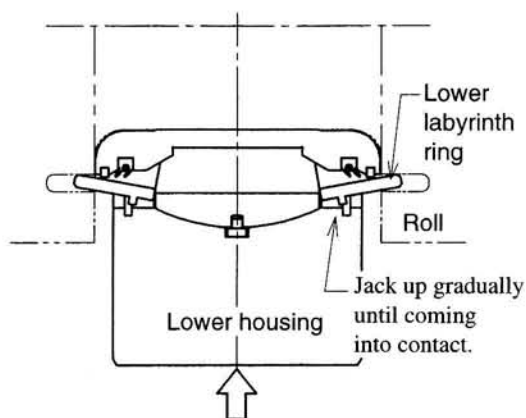

Fig. 16 Jacking Up Lower Housing
- 5) Jack up the lower housing gradually with the jack. Stop the jack when the lower housing comes in contact with the lower labyrinth ring (see Fig. 16).